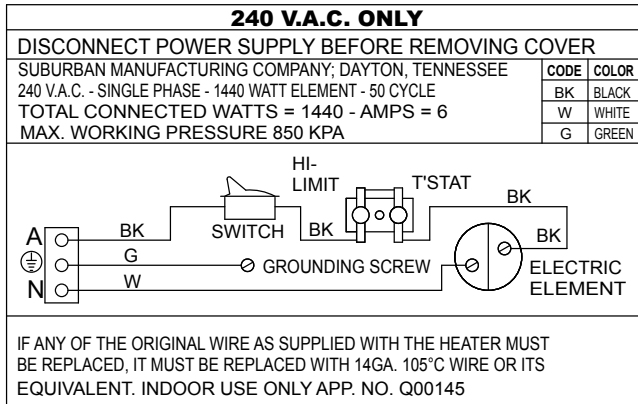

Figure 5
- Check rating plate and wiring diagram (Figure 5) before proceeding. Install a fused safety switch or circuit breaker of adequate capacity between heater and electrical power source. Attach the active and neutral wires from the fused switch or breaker to corresponding terminals in heater junction box. An earth wire from a well grounded source must be attached to the earth terminal in the junction box.